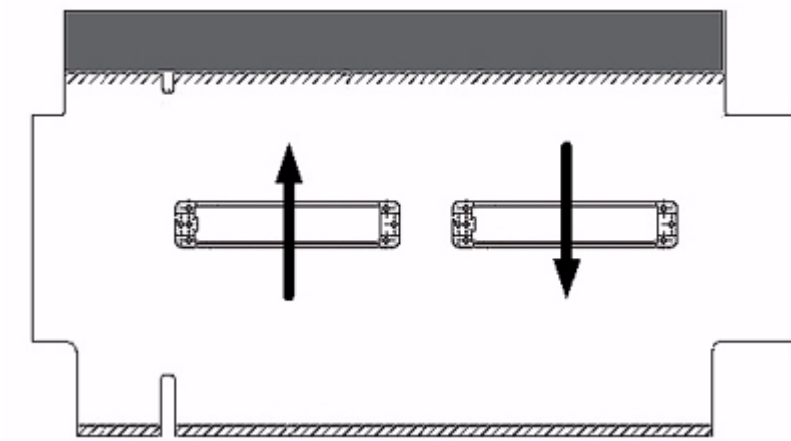

Figure 9 N5311-66426 Midbus Interposer Card
- **N5311-66426** (*x16 Midbus Interposer*). With this flavor of midbus interposer, maximum two N4241A midbus probes can be connected. This midbus interposer card routes one direction on each retention module (Figure 9).